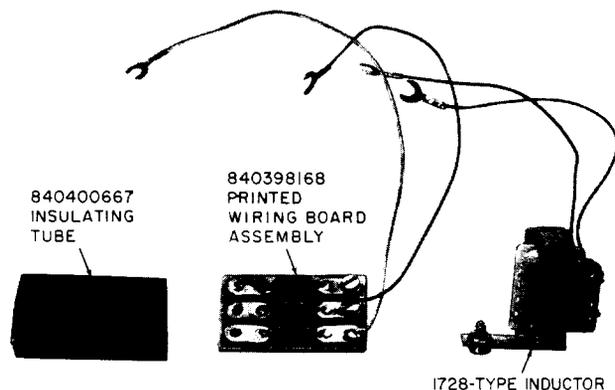

Fig. 1—D-180489 Kit of Parts
1.01 This section contains identification information for the D-180489 Kit of Parts (Fig. 1) used to eliminate noise in subscriber lines by providing a balanced ground path at a tip party station when tip party identification service is provided in the 500C/D, 500CM/DM, 554A/B/F, 554BM/BMP, 702B/BM, 2500D/DM, 2554B/BM/BMP, and 2702B/BM telephone sets.